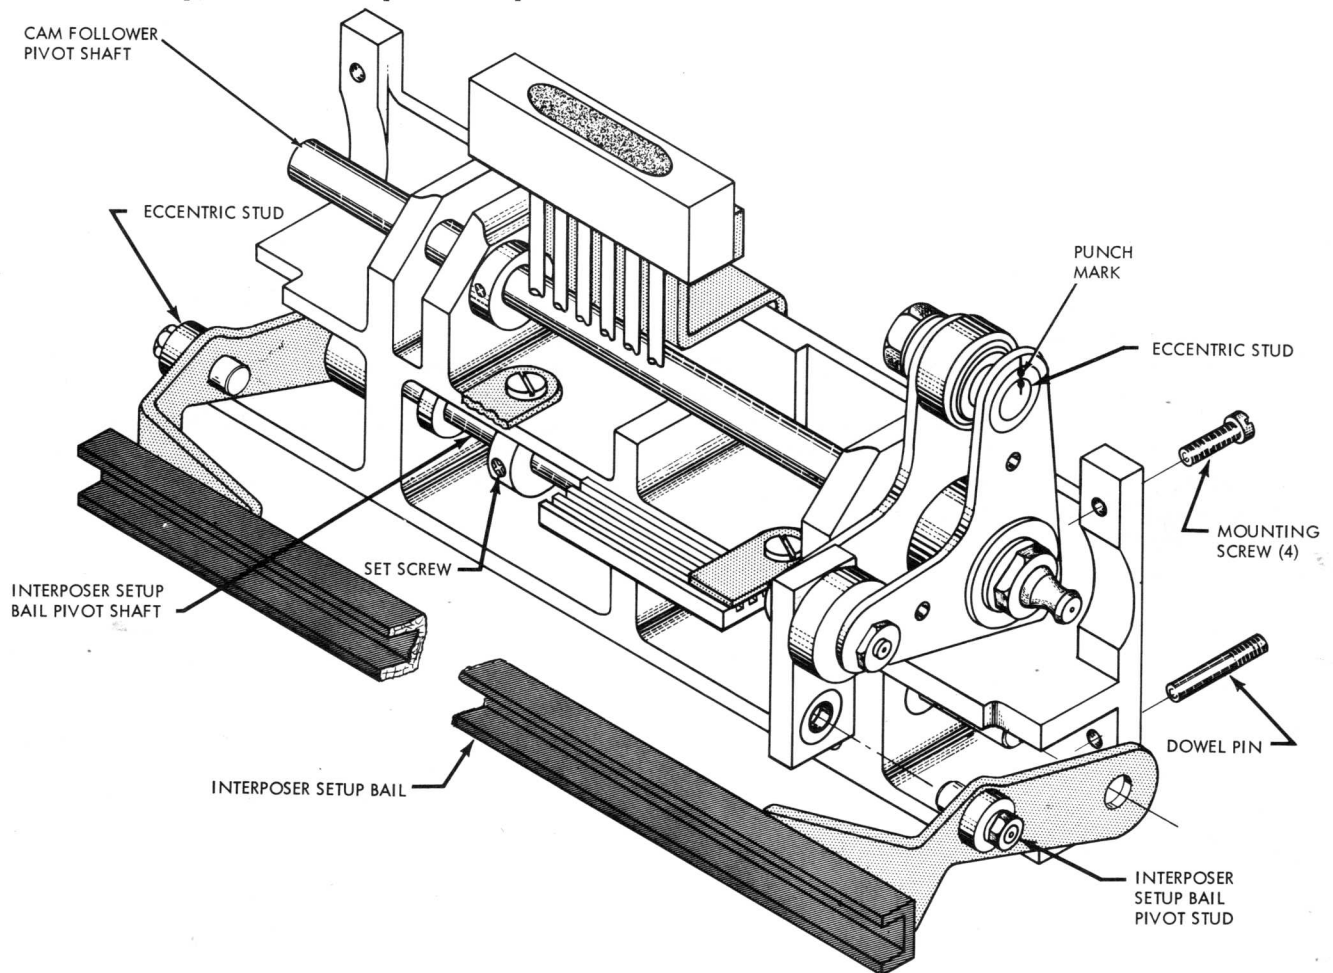

Figure 4-12. Cam Follower Assembly
3. With the cam follower bearings adjusted to the .002" feeler gage, check to see that a .005" feeler gage will not pass freely between any cam follower bearing and its respective cam surface at any point around the cam circumference. If this .005" adjustment cannot be met, check to see if the punch marks on the eccentric studs are up (these studs can be interchanged by mistake, in which case the punch marks would be down, making it impossible to adjust the follower bearings properly) (Figure 4-12).
3. Remove two dowel pins in cam follower mounting plate (Figure 4-12).
4. Remove four mounting screws (Figure 4-12).